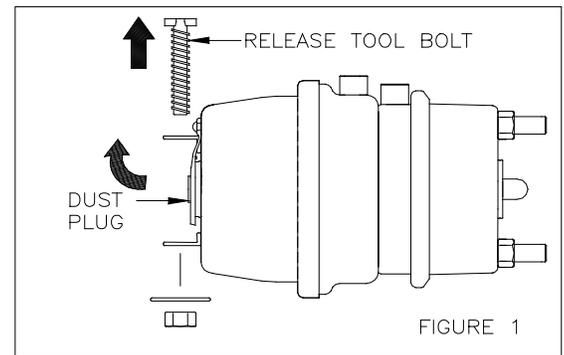
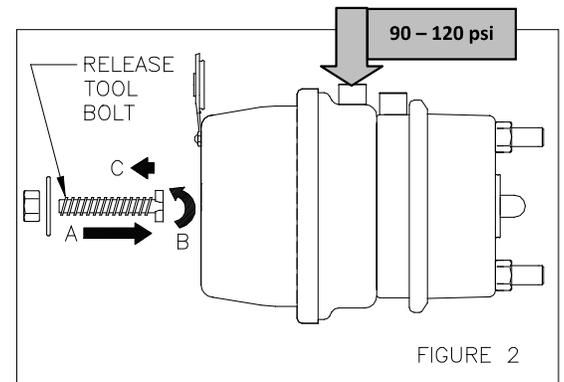

FIGURE 1
FIGURE 2
1. Remove the dust plug from the release tool access hole in the center of the spring housing. (Figure 1.)
2. Remove the release tool bolt, washer and nut from its holder. (Figure 1.)
3. Apply vehicle or shop air pressure, 120 psi (8.3 bar), 90 psi (6.2 bar) minimum, to the emergency side of the brake. Cycle the brake three (3) times. Maintain this air pressure.
4. Insert the release tool bolt through the access hole; all the way into the pressure plate, inside the spring housing. (Figure 2, Arrow A.)
5. Make sure you engage the release tool bolt in the pressure plate by turning the bolt 1/4 turn clockwise and pulling outward. If the release bolt is engaged properly on the pressure plate, it will not turn more than 1/4 turn clockwise and will not pull outward more than 3/4 inch (19mm). (Figure 2, Arrows B and C.)